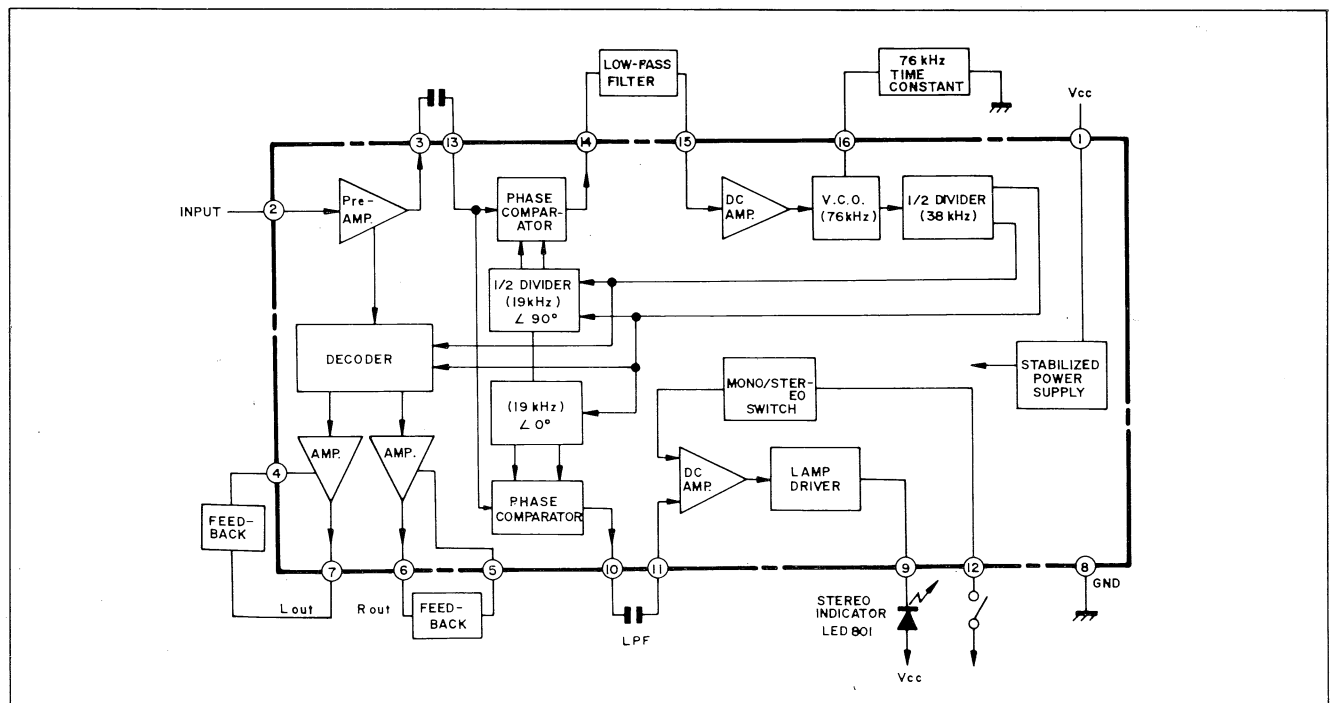

Figure 12
IC102 is an integrated circuit for P.L.L. stereo demodulation and its block diagram is as shown in Fig. 12. V.C.O. free-running frequency is to be adjusted to 76 kHz by adjusting semi-fixed resistor VR102 (10K ohm). TP107 is the test point for frequency observation. (See the paragraph "Adjustment" described later.) During LW/MW reception, +B voltage is supplied to the terminal (16) of IC102 through diode D106 and resistor R138 so that oscillation frequency of V.C.O. will be stopped. Semi-fixed resistor VR103 (220K ohm) aims at the adjustment of stereo separation and with this resistor it is possible to minimize crosstalk to the opposite channel. +B voltage is supplied to the terminal (12) to force stereo signals to become monaural ones.